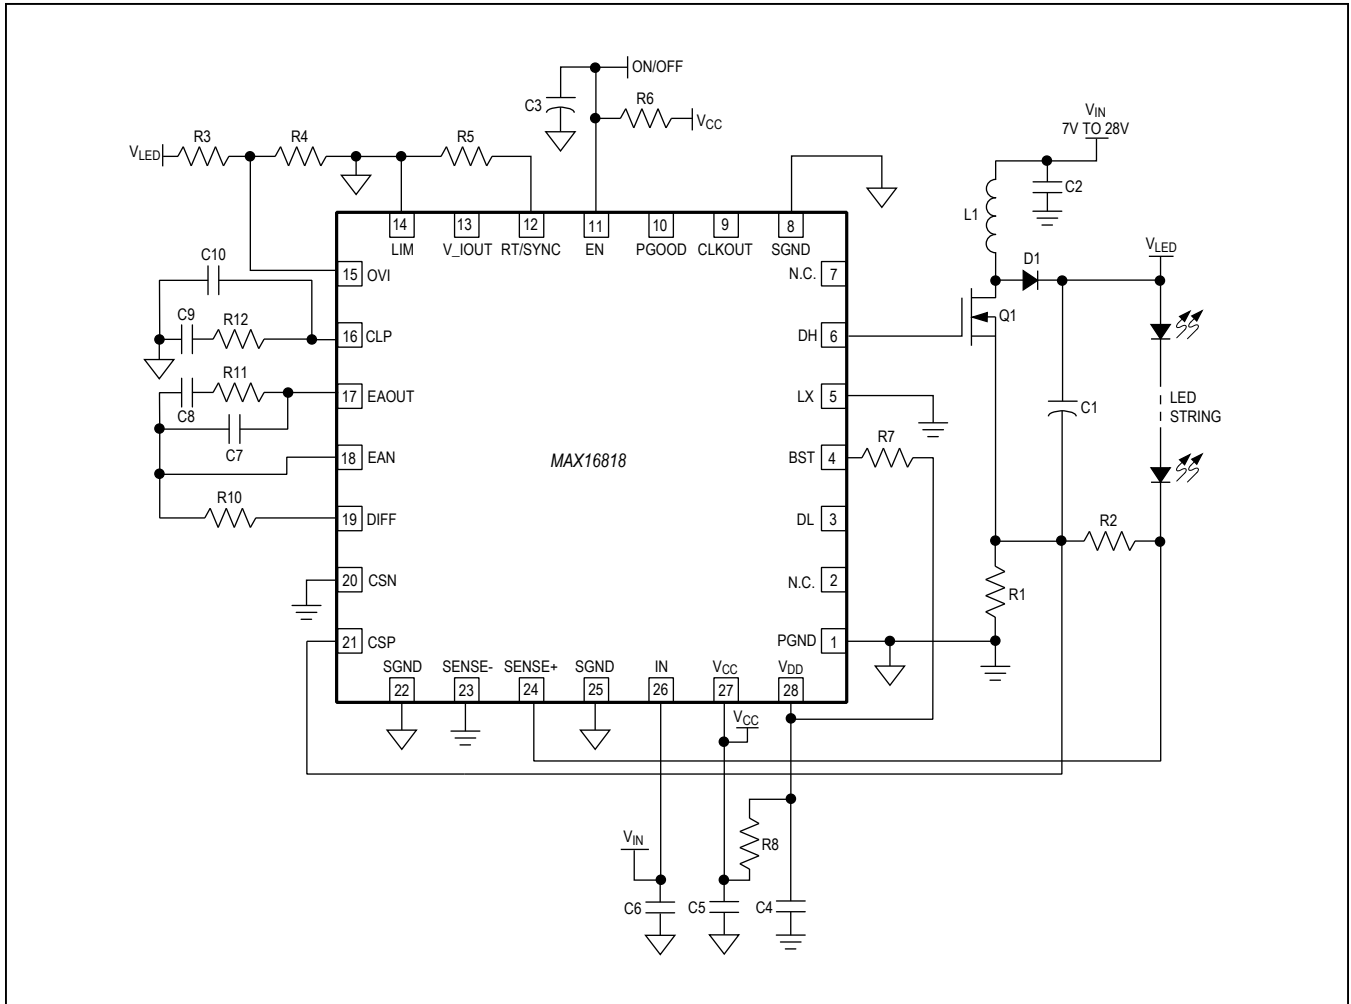
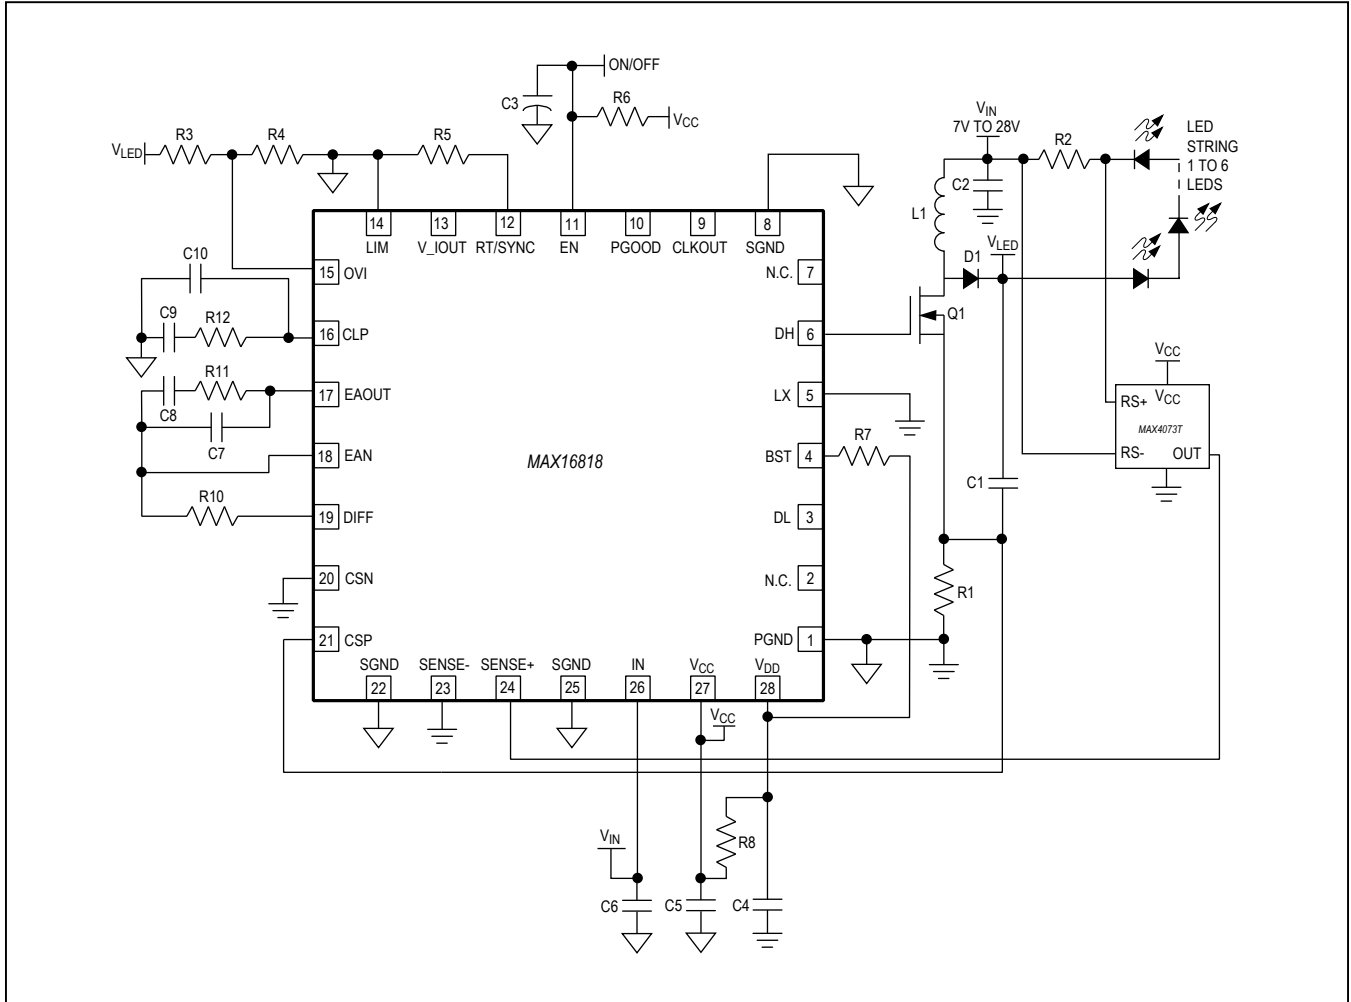

Figure 1. Typical Application Circuit for a Boost LED Driver (Nonsynchronous)
Figure 2. Typical Application Circuit for an Input-Referred Buck-Boost LED Driver (Input: 7V to 28V, Output: 1 to 6 LEDs in Series)
The high-side (DH) and low-side (DL) drivers drive the gates of external n-channel MOSFETs (Figures 1–5). The drivers' 4A peak sink- and source-current capability provides ample drive for the fast rise and fall times of the switching MOSFETs. Faster rise and fall times result in reduced cross-conduction losses. Due to physical realities, extremely low gate charges and  $R_{DS(ON)}$  resistance of MOSFETs are typically exclusive of each other. MOSFETs with very low  $R_{DS(ON)}$  will have a higher gate charge and vice versa. Choosing the high-side MOSFET (Q1) becomes a trade-off between these two attributes. Applications where the input voltage is much higher than the output voltage result in a low duty cycle where conduction losses are less important than switching losses. In this case, choose a MOSFET with very low gate charge and a moderate  $R_{DS(ON)}$ . Conversely, for applications where the output voltage is near the input voltage resulting in duty cycles much greater than 50%, the  $R_{DS(ON)}$  losses become at least equal, or even more important than the switching losses. In this case, choose a MOSFET with very low  $R_{DS(ON)}$  and moderate gate charge. Finally, for the applications where the duty cycle is near 50%, the two loss components are nearly equal, and a balanced MOSFET with moderate gate charge and  $R_{DS(ON)}$  work best.
This section provides some detail regarding the application circuits in the *Simplified Diagram* and Figures 1–5. The discussion includes some description of the topology as well as basic attributes.
In Figure 1, the external components configure the MAX16818 as a boost converter. The circuit applies the input voltage to the inductor during the on-time, and then during the off-time the inductor, which is in series with the input capacitor, charges the output capacitor. Because of the series connection between the input voltage and the inductor, the output voltage can never go lower than the input voltage. The design is nonsynchronous, and since the current-sense resistor connects to ground, the power supply can go to any output voltage (above the input) as long as the components are rated appropriately. R2 again provides the sense voltage the MAX16818 uses to regulate the LED current.
The circuit in Figure 2 shows a step-up/step-down regulator. It is similar to the boost converter in Figure 1 in that the inductor is connected to the input and the MOSFET is essentially connected to ground. However, rather than going from the output to ground, the LEDs span from the
output to the input. This effectively removes the boost-only restriction of the regulator in Figure 1, allowing the voltage across the LEDs to be greater than or less than the input voltage. LED current sensing is not ground-referenced, so a high-side current-sense amplifier is used to measure current.